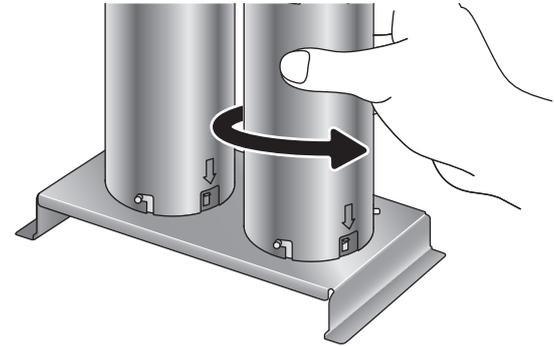

Fig. 8: Installing the reflectors
- Re-install the reflectors, following the position markings ,arrow' (fig. 8).
Fit the reflector in such a way that the arrow mark on the reflector faces the corresponding recess on the grill insert (fig. 8). Otherwise you will not be able to install the grill insert correctly.